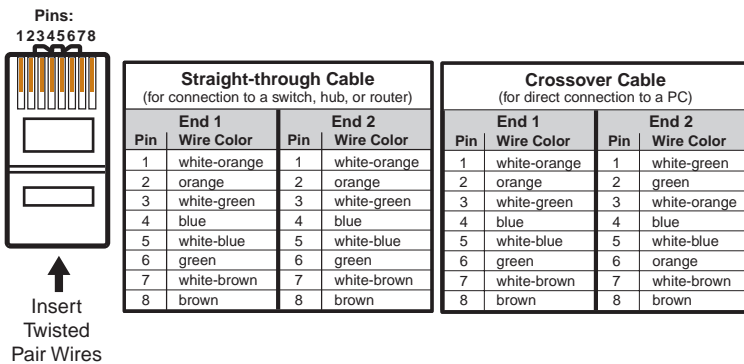

Figure 2-6 — RJ-45 connector wiring
1. Plug one end of a Cat 5, straight-through Ethernet cable into the rear panel Ethernet connector on the IPL T CR48. Refer to figure 2-6 for RJ-45 connector wiring.